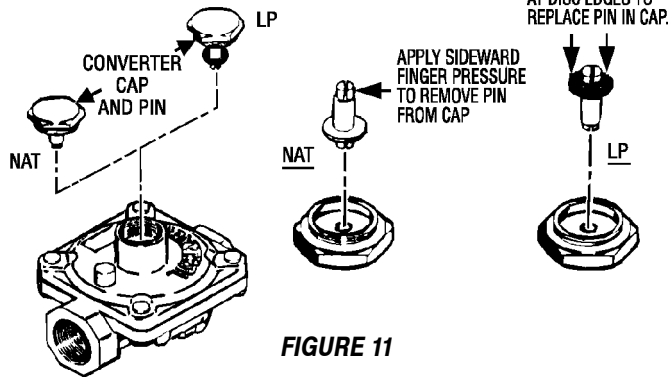

FIGURE 11
REGULATOR (See figure 11)
B. INVERT CAP IN APPLIANCE PRESSURE REGULATOR. (See figure 11).